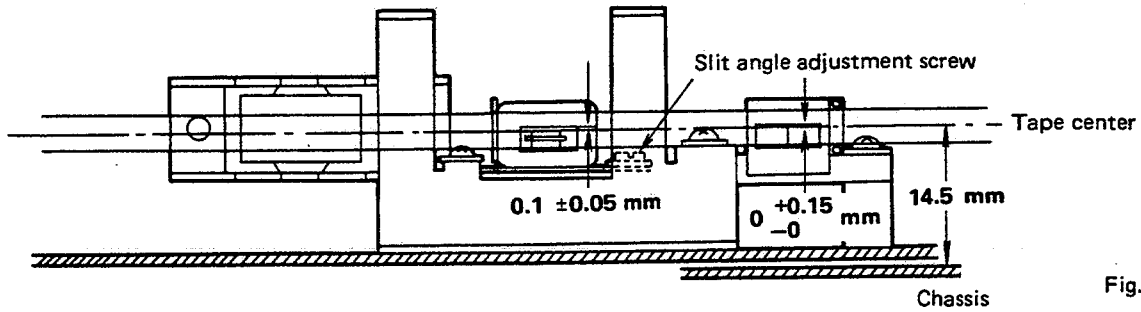

Fig. 17
6. Fig. 17 shows dimensional relationships of the tape and heads.